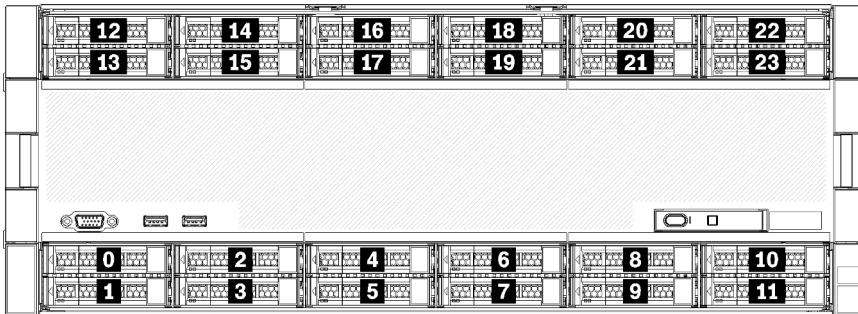

Figure 11. Drive bay locations
- Top two drives support SAS, SATA, or NVMe interface drives (Lenovo AnyBay). The server can support up to 12 NVMe drives, depending on the server configuration. The NVMe-capable drive bays are the even-numbered bays as shown in Figure 11 “Drive bay locations” on page 25.